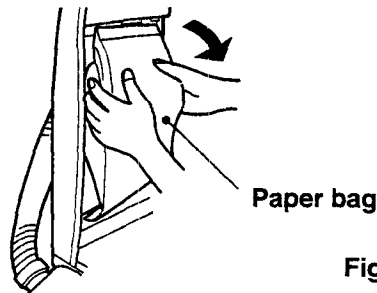

Fig. 15
- 2 To remove the paper bag, grasp the collar on the bag and pull it out. (Fig. 15)